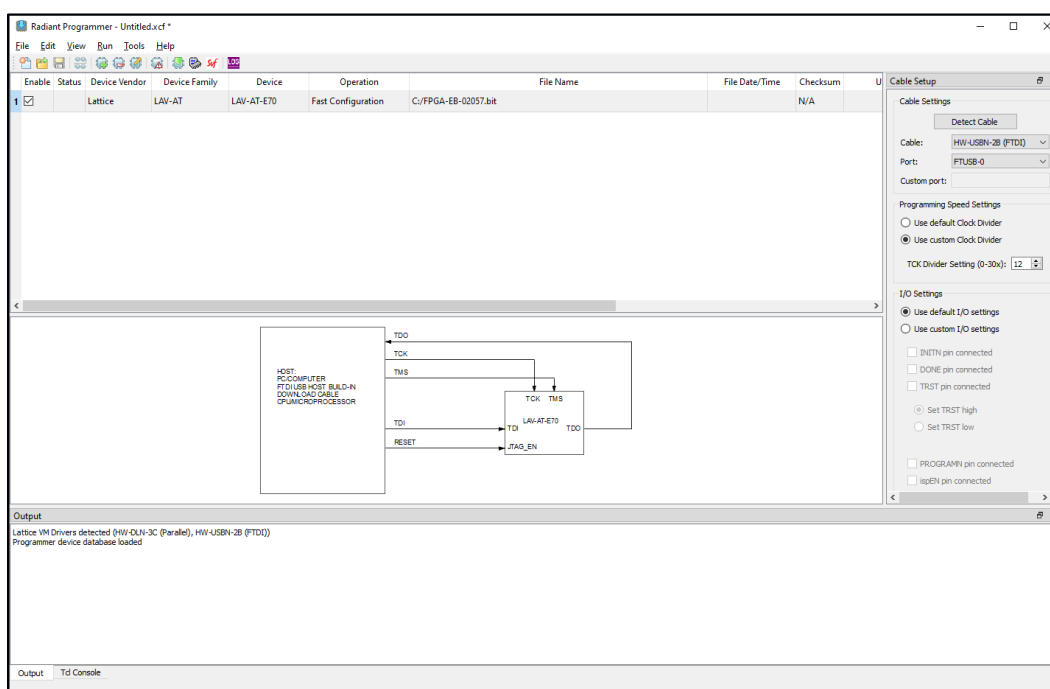

Figure 5.5. Radiant Programmer
4. The Radiant Programmer interface opens as shown in Figure 5.5. Double-click the **Operation** field.